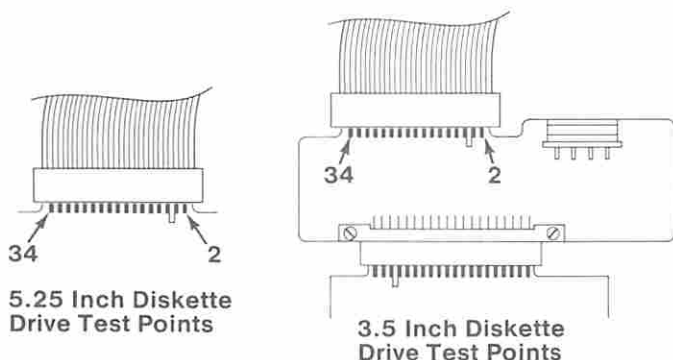

Figure 4. Voltage Check
- Check the voltage at pin 24 on the diskette drive circuit board (Figure 4). Use the system unit frame as ground.